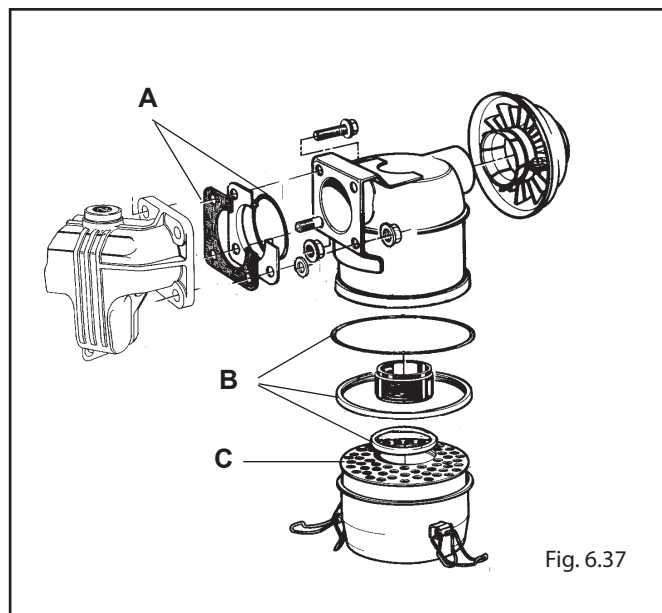

Fig. 6.37
6.26 OIL BATH AIR FILTERS (FIG. 6.37)